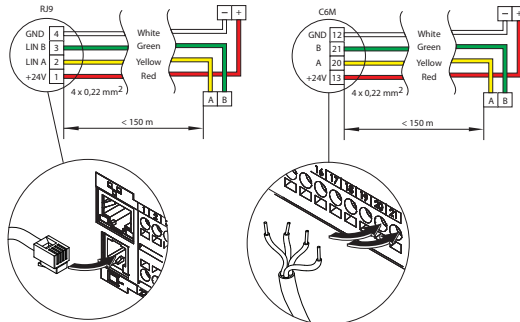

Fig. 17. Control panel cable wiring diagram
- **DX (15–16)** – control signal for external direct expansion (DX) cooler/heater.
- Control panel (see. Fig. 17)
- **Outputs (34–37)** – the terminals are used when external heating/cooling units require an additional closed/open contact (i.e. to start the DX unit). The corresponding contacts are closed depending on whether the air handling unit heats or cools. The alarm signal contact is closed if the air handling unit has critical messages and its operation is stopped. If the thermostat function is used, you can connect external devices (e.g., heating boiler or heat pump) to these terminals, which will turn on/off when the control panel temperature does not meet the desired temperature. In the function settings on the control panel (see "User manual"), you can select which terminal will be used to switch on the external device. You can also select the signal type: normally open (NO) or normally closed (NC) contact. Based on these settings, terminals 34 + 35, 34 + 36 or 34 + 37 will be activated as soon as the thermostat is activated.